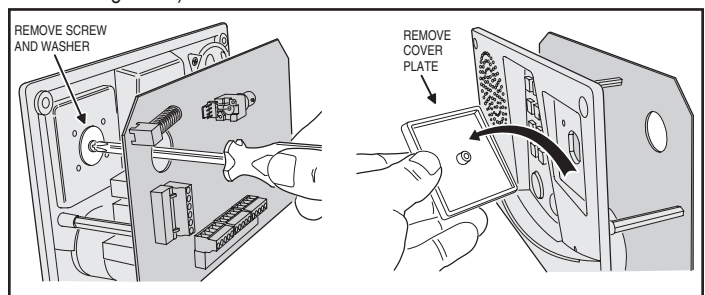

Figure 20. Removing the Keyswitch Hole Access Plate
1. Remove the screw and washer that retain the keyswitch hole access plate (see Figure 20).